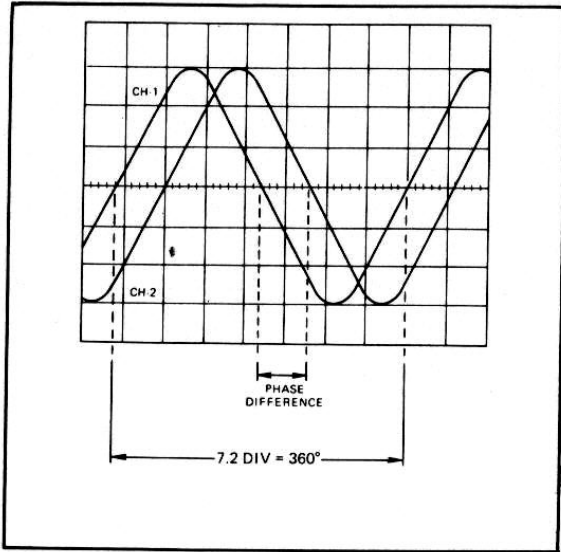

Figure 2-19.
2. Position the trigger SOURCE selector (34) to the channel with the cleanest and most stable trace. Temporarily move the other channel's trace off the screen by means of its vertical POSITION control.
3. Center the stable (trigger source) trace with its vertical POSITION control, and adjust its amplitude to exactly 6 vertical divisions by means of its VOLTS/DIV switch (10) and VARIABLE control (11).
4. Use the LEVEL control (40) to ensure the trace crosses the central horizontal line at or near the beginning of the sweep. (See Figure 2-19.)
5. Use the A TIME/DIV switch (24), A VARIABLE control (26), and the horizontal POSITION control (29) to display one cycle of trace over 7.2 divisions. When this is done, each major horizontal division represents 50° , and each minor division represents 10° .
6. Move the off-screen trace back on the CRT with its vertical POSITION control, precisely centering it vertically. Use the associated VOLTS/DIV switch (10) and VARIABLE control (11) to adjust its amplitude to exactly 6 vertical divisions.
7. The horizontal distance between corresponding points on the waveform is the phase difference. For example, in the Figure 2-19 illustration the phase difference is 6 minor divisions, or 60° . You can use the X FINE control (30) to align one of the mid-cycle zero crossings with a graticule calibration to facilitate this measurement.
8. If the phase difference is less than 50° (one major division), pull the A VARIABLE (X10 MAG) control (26) outwards and use the horizontal POSITION control (if needed) to position the measurement area back on screen. With 1 OX magnification, each major horizontal division is 5% and each minor division is 1° .